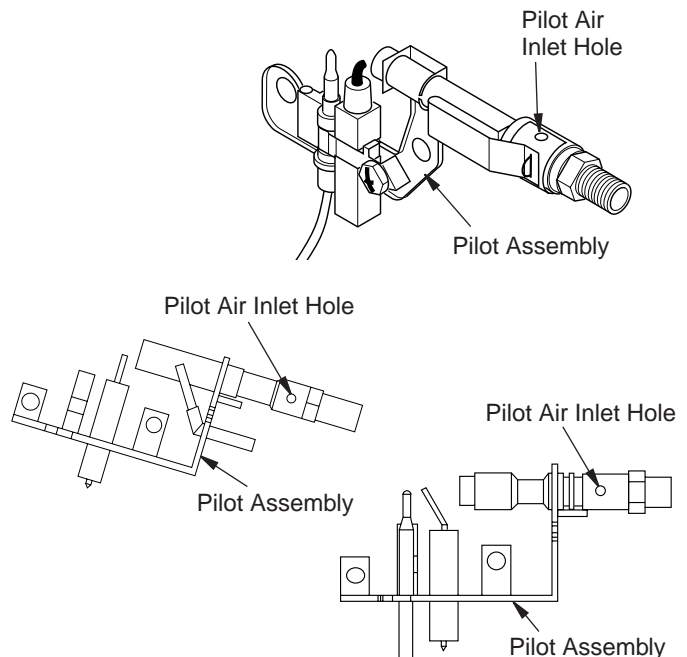

Figure 27 - Pilot Inlet Air Hole (Your pilot may vary from pilots shown)
2. Inspect burner, pilot, and primary air inlet holes on injector holder for dust and dirt (see Figure 27).
Clean the pilot assembly also. A yellow tip on the pilot flame indicates dust and dirt in the pilot assembly. There is a small pilot air inlet hole about two inches from where the pilot flame comes out of the pilot assembly (see Figure 27). With the unit off, lightly blow air through the air inlet hole. You may blow through a drinking straw if compressed air is not available.